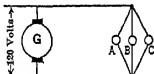

Fig. 48. Group of 3 lamps in parallel.
**Prob. 26-2.** In Fig. 48 (parallel combination):
**Prob. 27-2.** If each lamp of the combination, Fig. 48, were replaced by one taking 0.5 ampere, how many amperes must the generator deliver?
**Prob. 28-2.** In Fig. 48, suppose the lamps  $A$ ,  $B$ , and  $C$  to be replaced by devices requiring currents of 6 amperes, 0.75 ampere and 2 amperes. What is the largest resistance the line wires may have to produce 110 volts at the load when 120 volts is maintained at the generator? What is the total resistance between generator terminals?